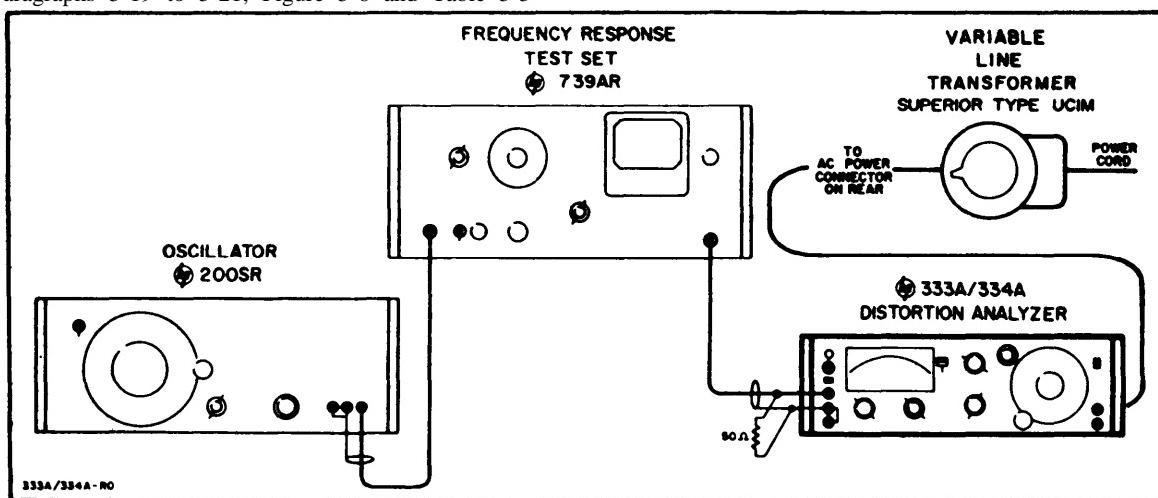

Figure 5-6. Voltmeter Frequency Response Check Test Setup
a. Connect the 333A/334A as shown in Figure 5-6.
Paragraphs 5-19 to 5-21, Figure 5-6 and Table 5-5
a. Connect Distortion Analyzer to test equipment as shown in Figure 5-6.